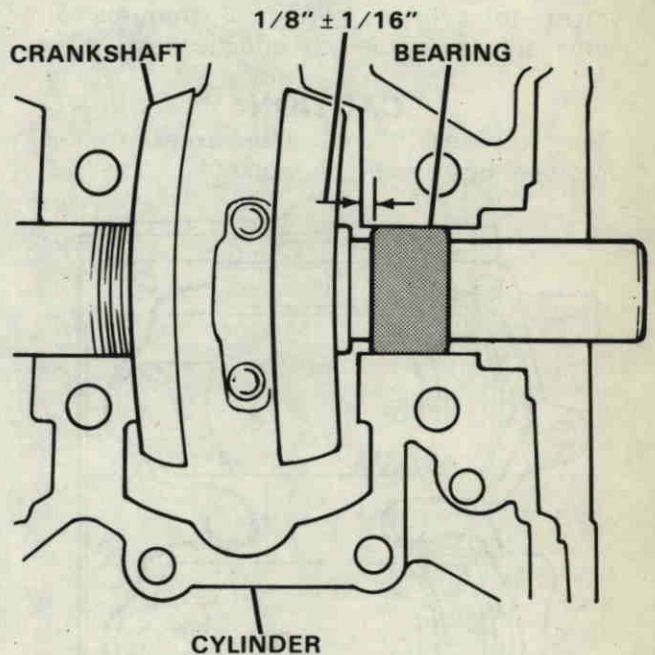

Figure 32. Positioning Lower Main Bearing.
F. Lay crankshaft in cylinder, connecting rod throws over open end of connecting rods. Position lower main bearing. Figure 32.